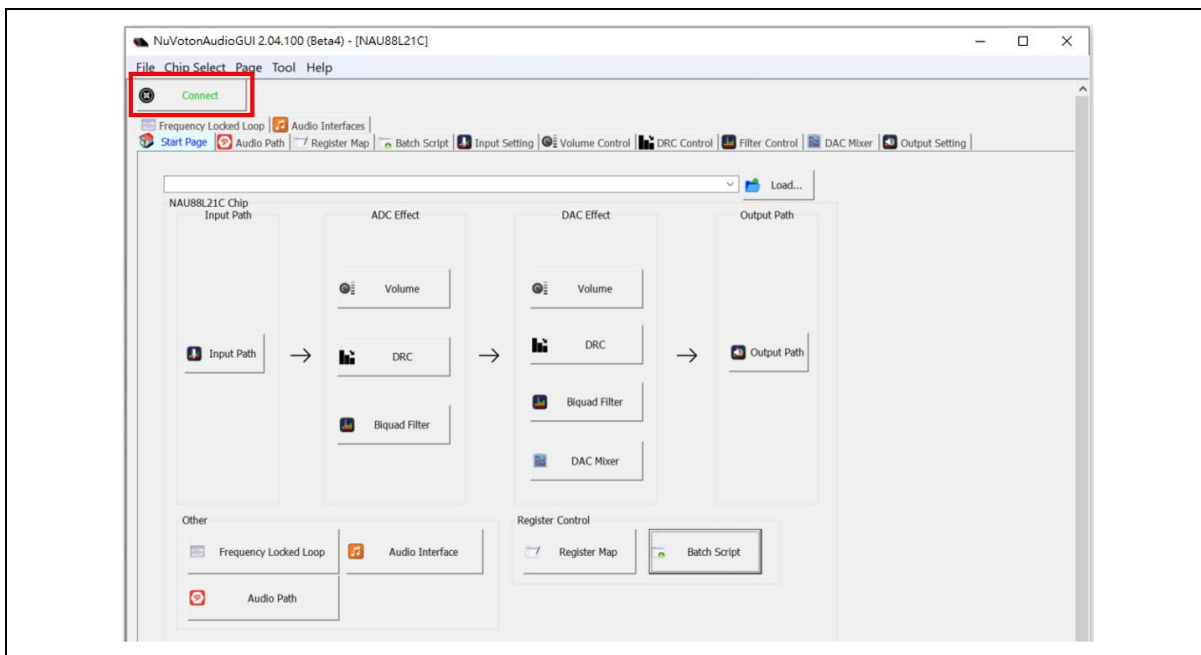

Figure 3-6 NuvotonAudioGUI Operating Step (3)
- NuvotonAudioGUI will automatically read connection status. If the hardware and software are properly configured, a green [Connect] will appear on the upper left corner of the NuvotonAudioGUI window, as shown in Figure 3-6. Then users can issue I²C commands through NuvotonAudioGUI to control NL-NAU88L21C.